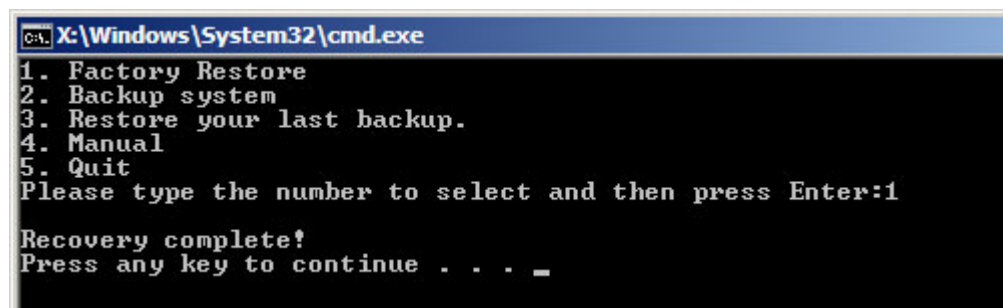

Figure B-25: Recovery Complete Window
Step 11: The screen is shown as in **Figure B-25** when completed. Press any key to reboot the system.